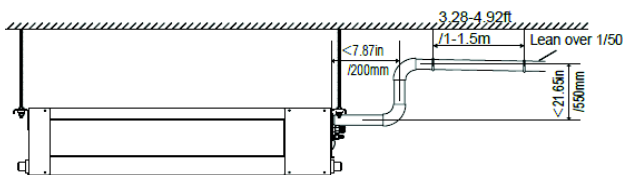

Fig. 13 – Condensate piping with a pump
- The highest point in the condensate piping should be as close to the unit as possible. See Fig. 13.